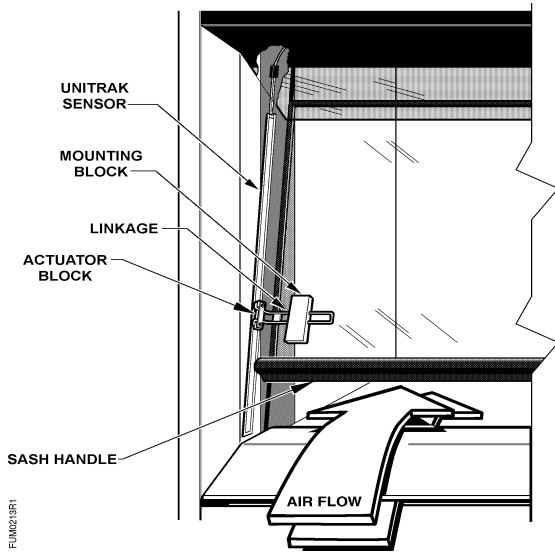
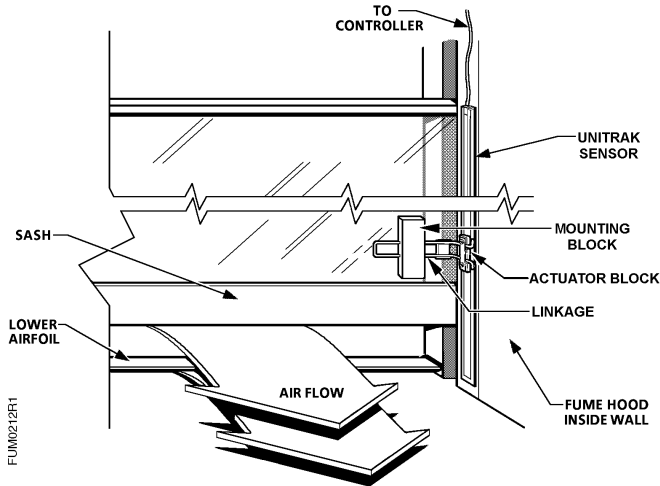

Figure 3. Outside Installation of UniTrak® Sensor.
Figure 4. Inside Installation of UniTrak® Sensor.
7. Locate the correct mounting area for the UniTrak sensor. See Figure 3 and Figure 4.